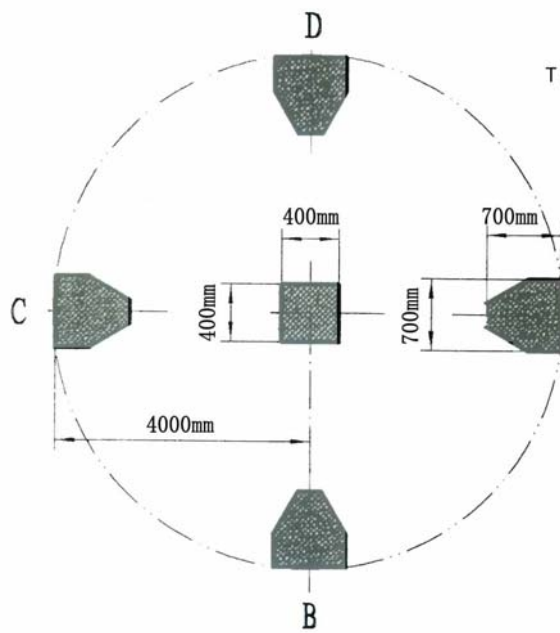

Fig 2.
3.41 Dig a cubic hole in the center of the ground with size of 40X40X40cm. Then dig four triangular pits at the place of A, B, C, and D, which are symmetrically 4 meters from the central hole in four directions. The diagonals of A-C and B-D vertically intersect at the center of square hole. The depth and side length are 70cm. (Fig 2)